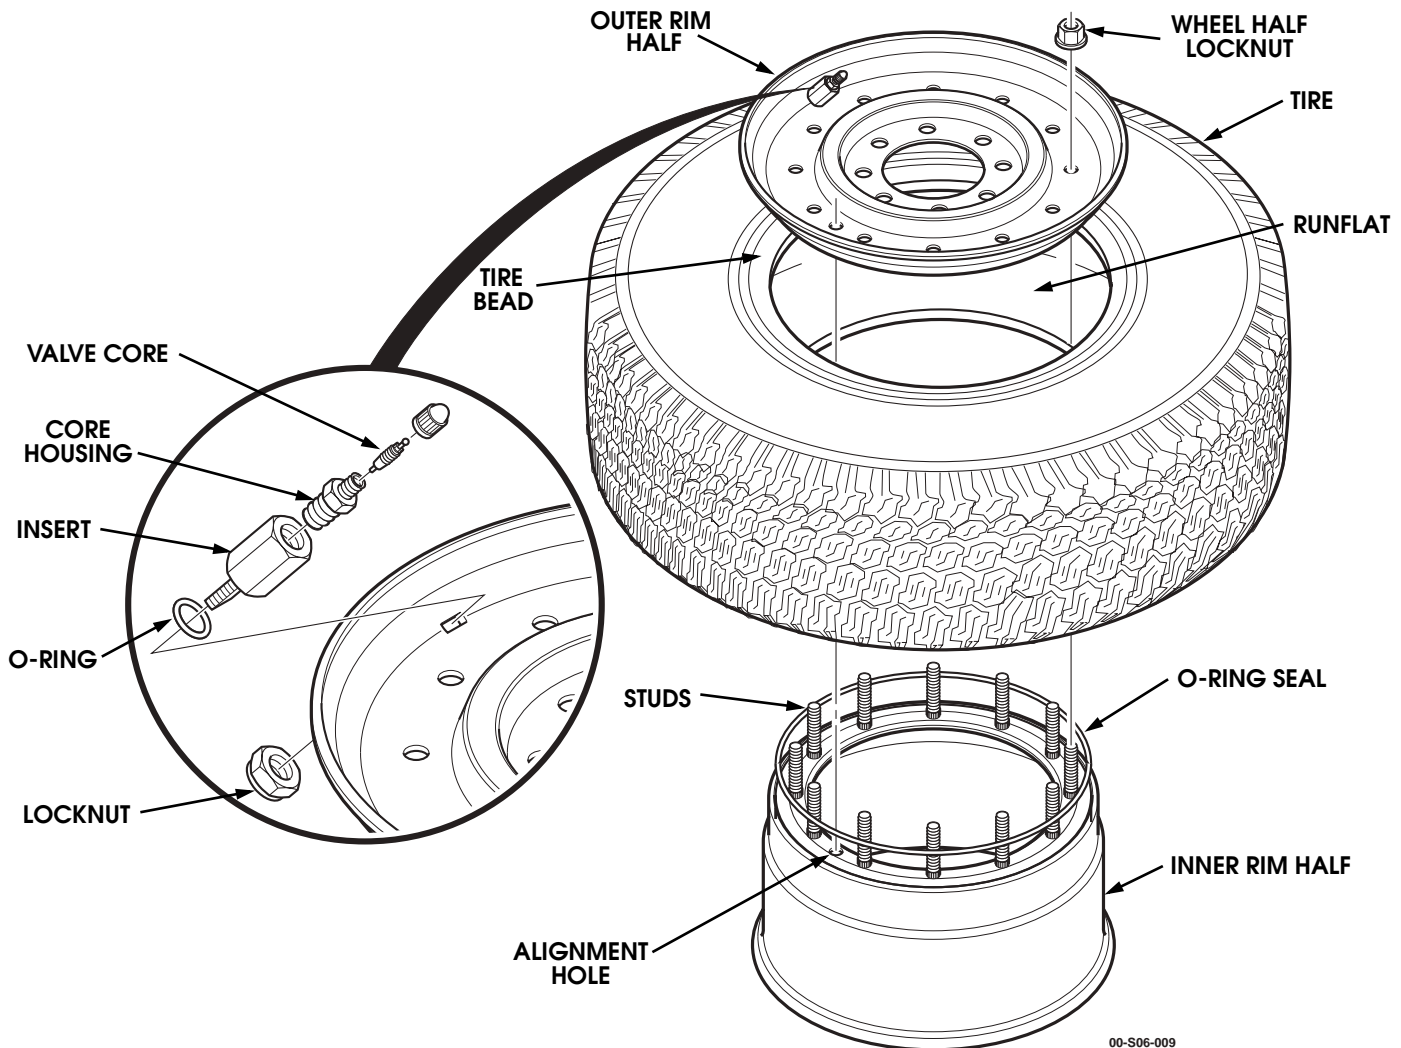

Figure 6-14: Two-Piece Wheel with One-Piece Runflat Breakdown
8. Lubricate O-ring seal with tire lube and install O-ring seal on first ledge of inner rim half. Ensure O-ring seal is not twisted and is uniformly positioned in the groove outside of the studs. Do not overstretch O-ring seal (Figure 6-14).
10. Center runflat in tire. Carefully lower tire over inner rim half. Check to ensure O-ring seal has not been disturbed (Figure 6-14).